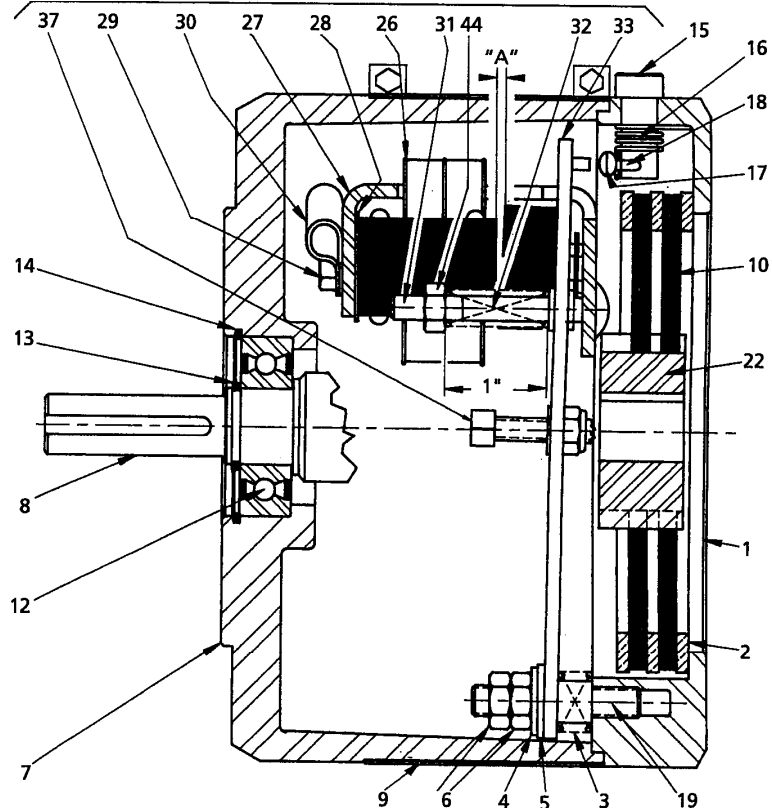

Figure 8
Numbers in parentheses refer to parts illustrated in Figures 8 thru 12.
(Refer to Figures 8 and 12.)
(Refer to Figures 8, 9 and 12.)
(Refer to Figures 8, 10 and 12.)
4. Reassemble to magnet bracket (Ref. No. 27) using items (Ref. No. 31), (Ref. No. 32), and (Ref. No. 44). Reassemble operator assembly to brake bracket. Set magnet air gap "A" and set torque springs (Ref. No. 32) to 1" dimension shown in Figure 8.
MANUAL RELEASE ADJUSTMENT (Refer to Figures 8, 11 and 12.)
MANUAL RELEASE ASSEMBLY (Refer to Figures 8, 11 and 12.)
PIVOT STUD ADJUSTMENT (Refer to Figures 8 and 12.)